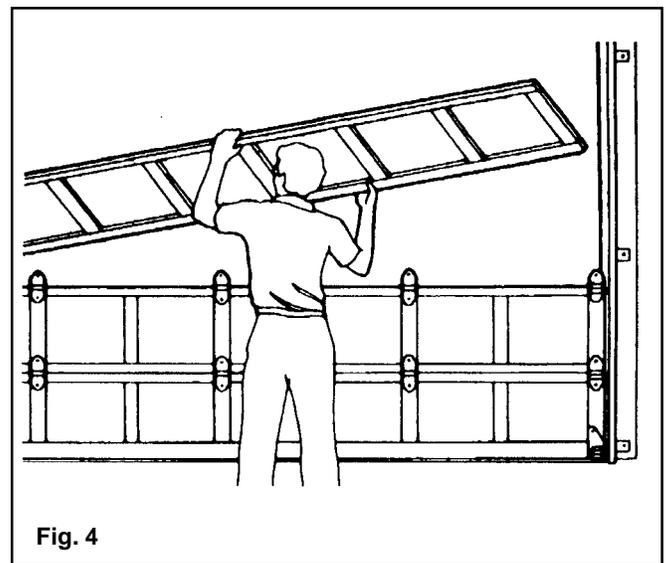

Fig. 4
**Step 2:** The door can now be disassembled. Starting with the top section, remove the hardware and unstack the sections one at a time. (FIG. 4)